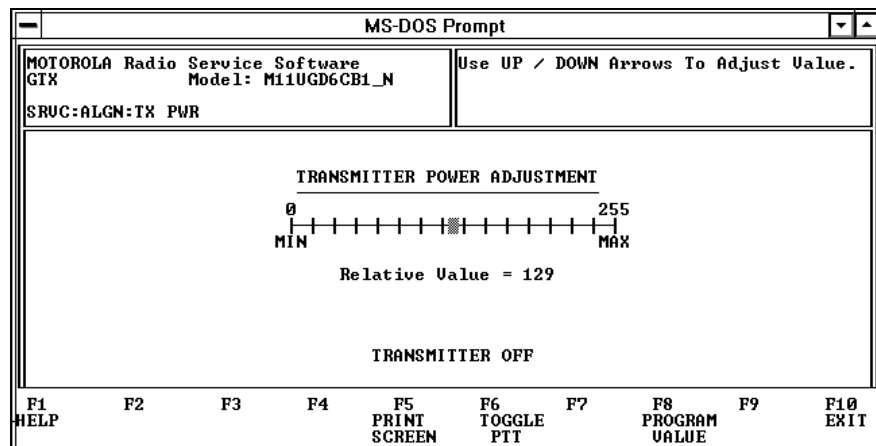

Figure 11.4 –Transmit Power Adjustment
1. Press F7, "TRANSMITTER POWER Adjustment" from the alignment menu. The transmitter power adjustment screen is shown in Figure 11.4.